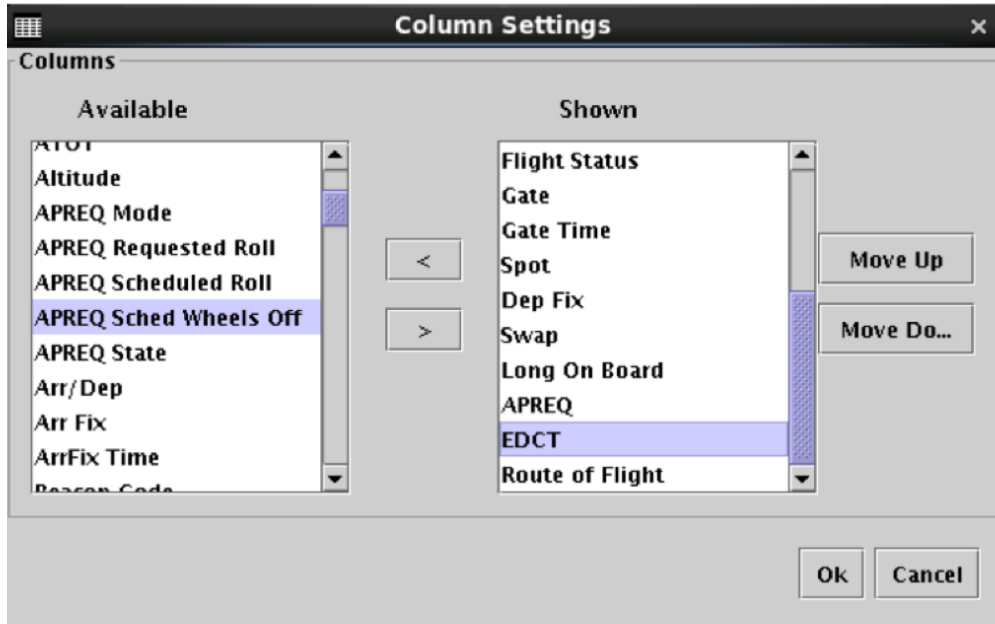

Figure 68. Add a column to the Flights Table – select a field.
**Step 2:** Select the field on the “Shown” list where the added field should be inserted (Figure 68).